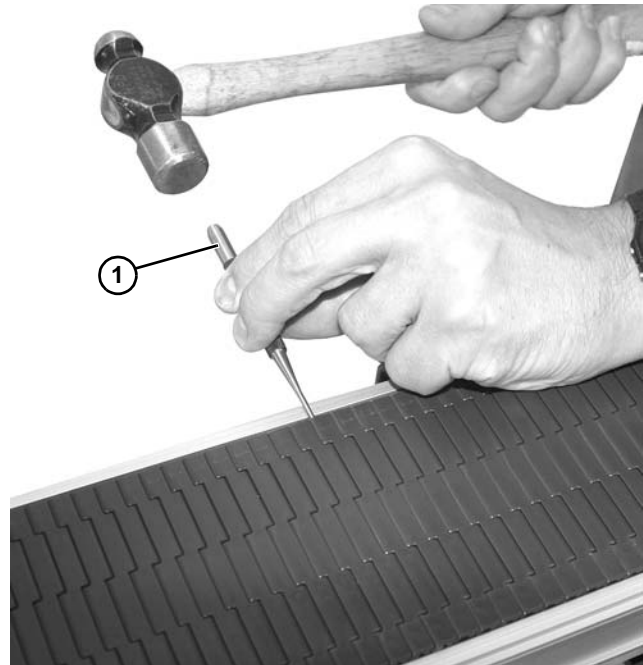

Figure 40
2. Insert punch (Figure 40, item 1) into non-retaining side of belt, pushing rod out.